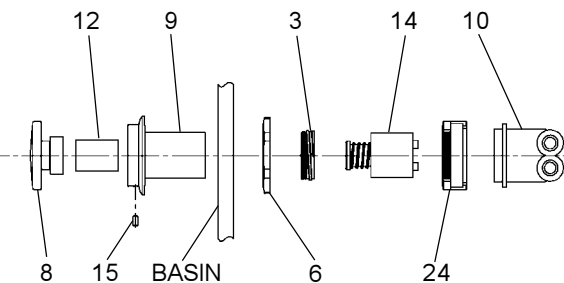

FIG. 7
7. **Check stream height from bubbler.** Stream height is factory set at 45-50 PSI. If supply pressure varies greatly from this, remove items 8 and 12 (See Figure 7, Page 4) by loosening set screw (item 15) and adjust the screw on regulator (item 14). Clockwise adjustment will raise stream height and counter-clockwise adjustment will lower stream height. For best adjustment stream height should be approximately 1" (25mm) above the bubbler guard.